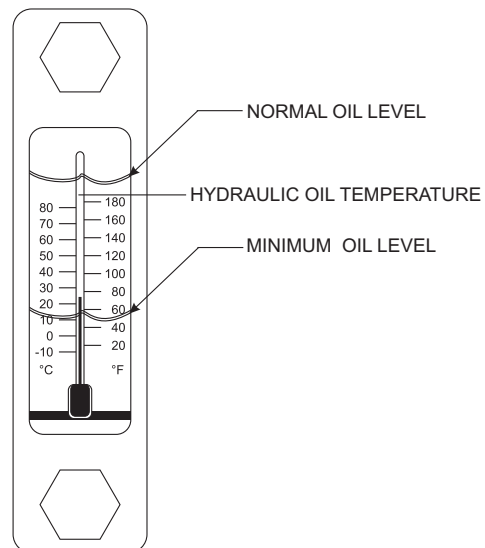

Figure 13. Hydraulic Oil Sight Glass
1. Determine if the hydraulic oil level is low by observing the level of the oil in the **hydraulic oil sight glass** (Figure 13).